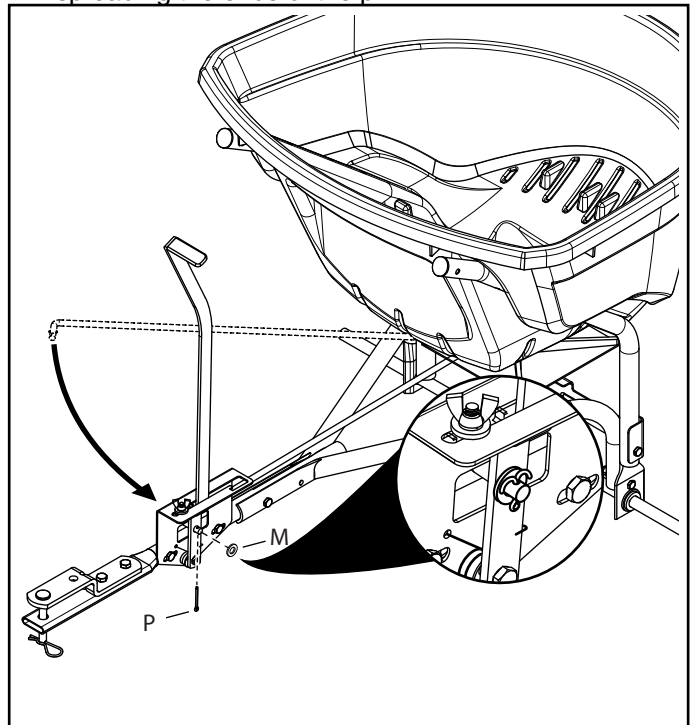

FIGURE 12
STEP 12: (SEE FIGURE 12)
- Swing the flow control rod around and insert the end of the rod into the flow control arm. Secure it with a 1/4" washer (M) and a 3/32" x 3/4" cotter pin (P) by spreading the ends of the pin.